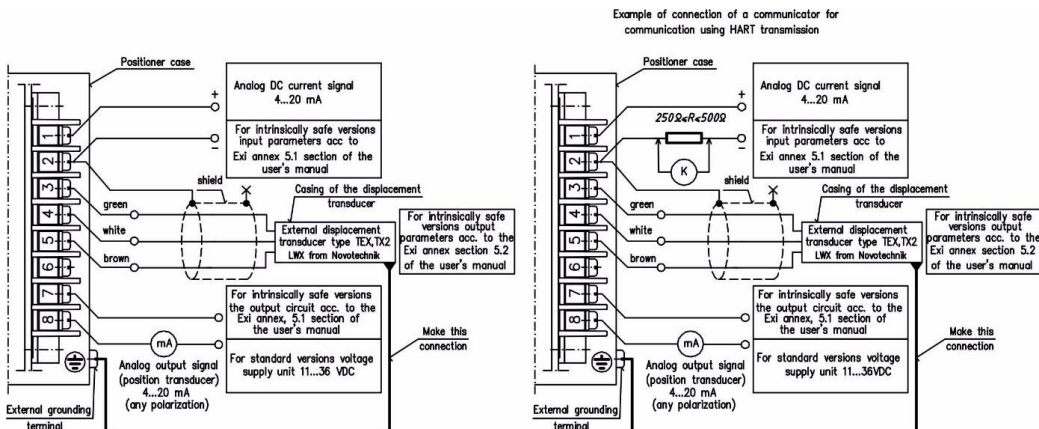

Fig. 21b Wiring position for executions with an external displacement transducer if:
- The only terminal of the shield of the cable of the displacement transducer must be connected with terminal #2 of the positioner as in Figures 21b, c, d, e;
- If the second terminal of the shield of the cable is separated from potentiometer's case (Fig. 21b) then it is recommended to connect positioner's and potentiometer's cases by means of external wire.